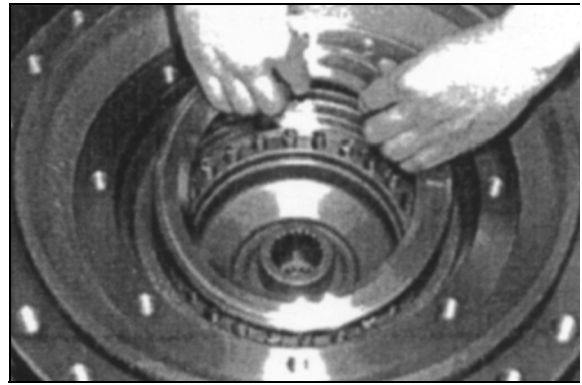

Figure 125
34. Install retainer disc. Figure 125.